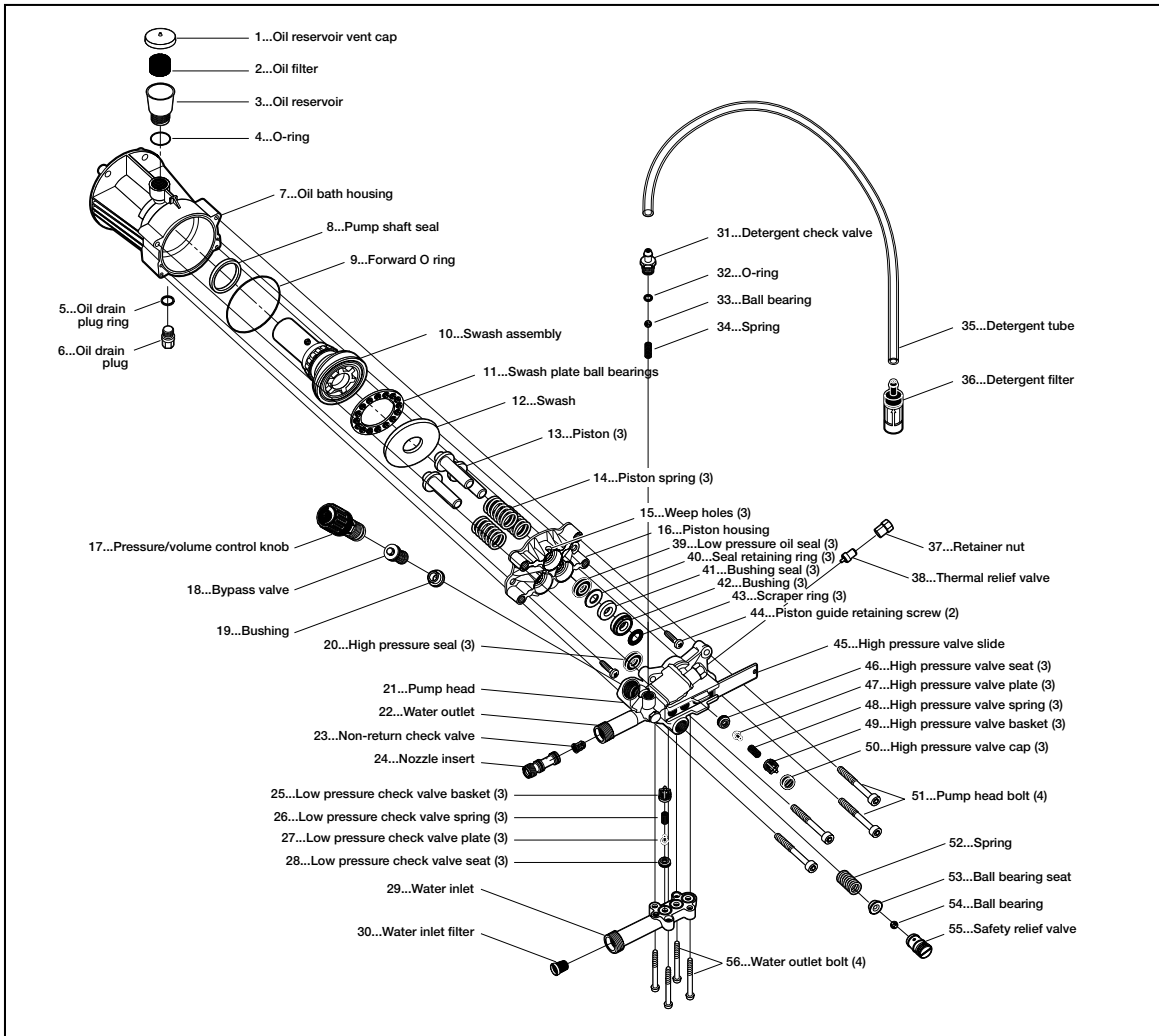

figure 26
1. Remove swash plate assembly. (figure 26)